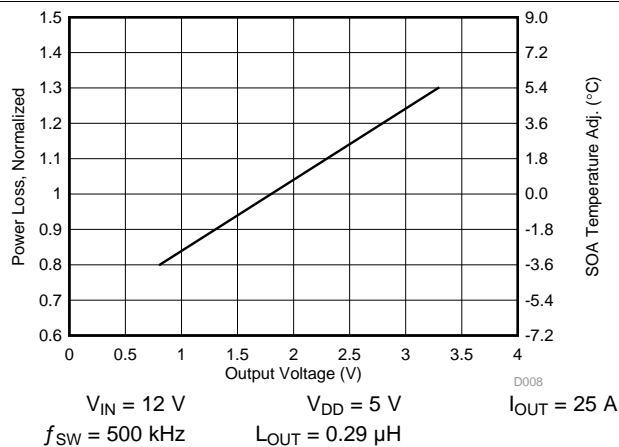

Figure 10. Normalized Power Loss vs Output Voltage
- Normalized Power Loss for output voltage ≈ 0.94 (Figure 10)
- SOA adjustment for output voltage $\approx -1.1^{\circ}\text{C}$ (Figure 10)